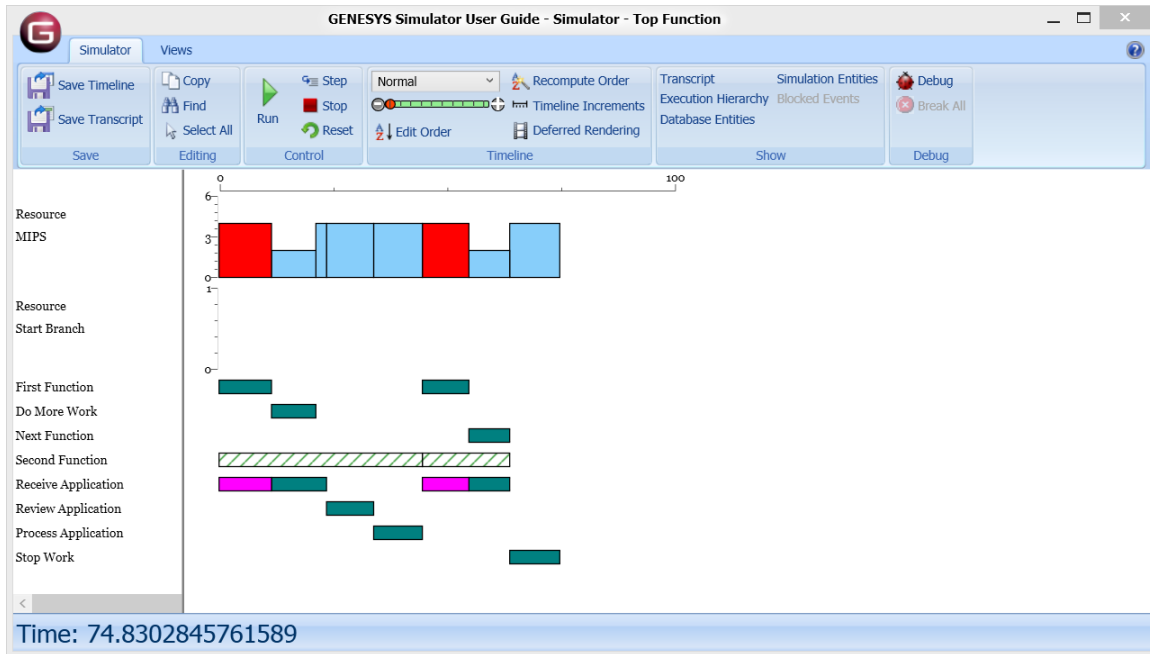

Figure 54 Loop Exit Model with Trigger-Type Resource
**Resources** can also be added to a model to provide control. Specifically, **Resources** can function as triggers. For example, one **Function** produces a trigger-type **Resource** that is then consumed by a subsequent **Function** awaiting the trigger-type Resource. Again, going back to our Loop Exit model, a Resource, Start Branch has been added to the model. First Function *produces* Start Branch which is *consumed by* Receive Application. The simulation results are shown in Figure 54. Note that Receive Application is delayed (magenta bar) until First Function completes execution, producing the **Resource**, Start Branch.